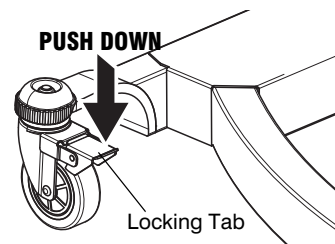

Figure 3-7. Castor lock
3. For the FS60 machine's base (the 30FS base module), lock the castor wheels (Figure 3-7.).